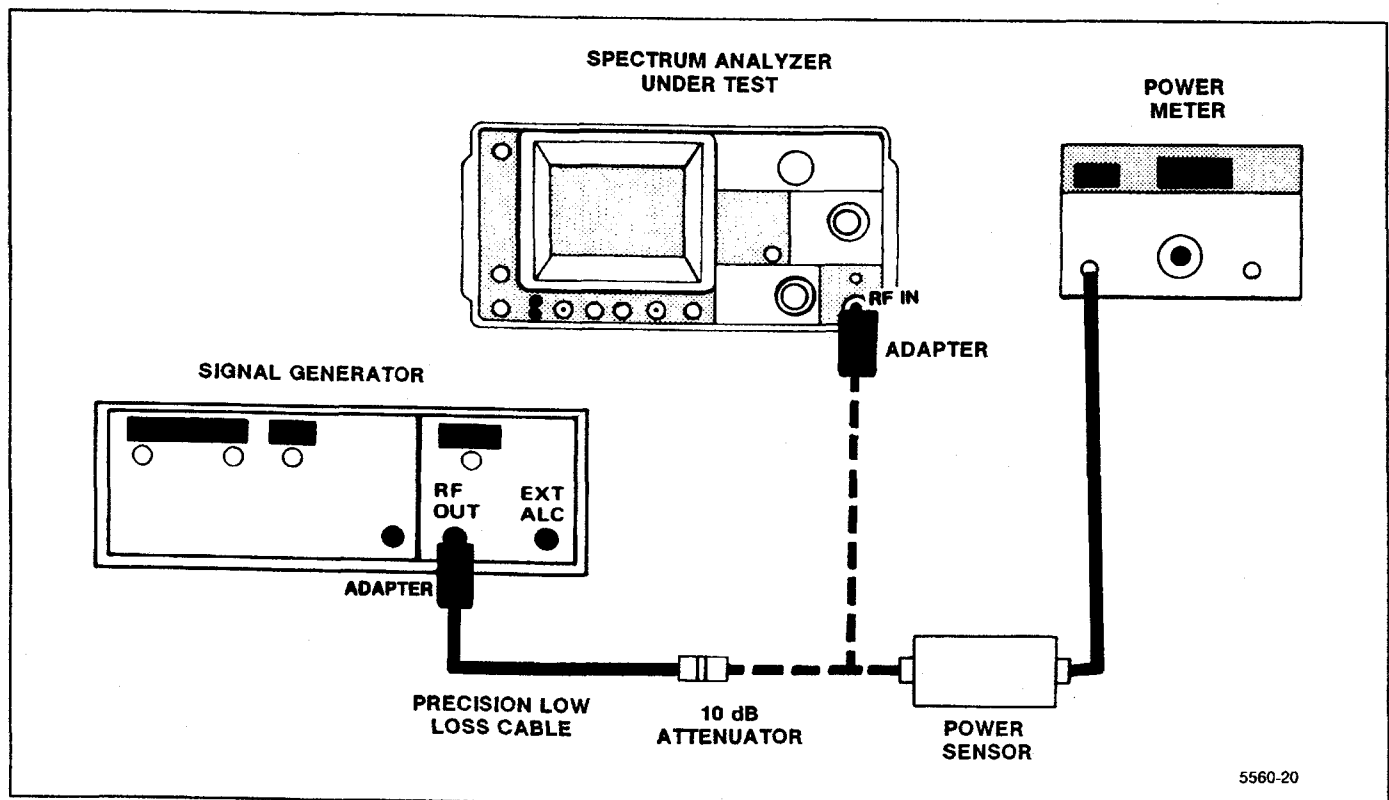

Figure 4-15. RF attenuator test equipment setup for 50—60 dB step.
b. Connect the test equipment as shown in Figure 4-15. Set the Spectrum Analyzer controls as follows: